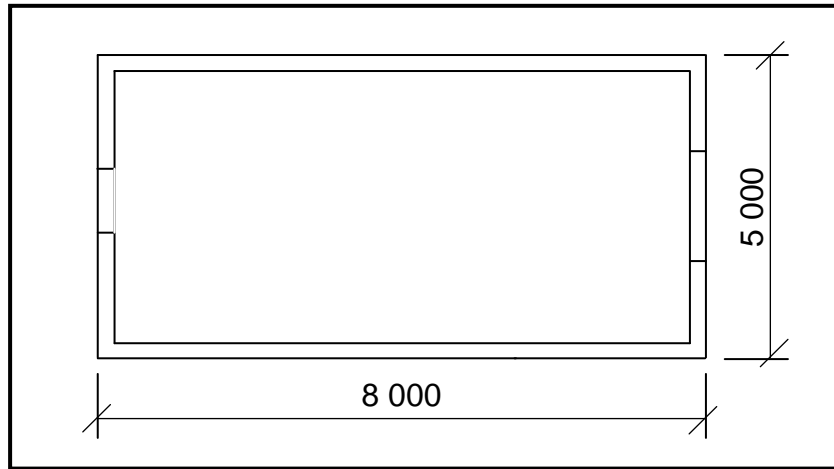

FIGURE 6.6
6.6 FIGURE 6.6 below shows the floor plan of a storeroom with an opening for a door and a window.